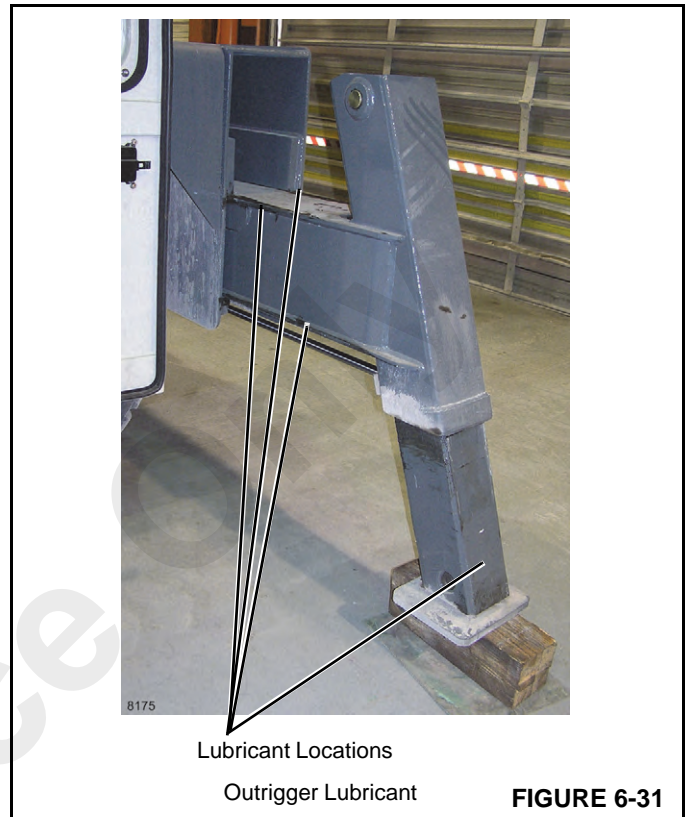

FIGURE 6-31
3. Apply Mobil EP grease, or equivalent, to the areas shown in Figure 6-31. Do not over lubricate.